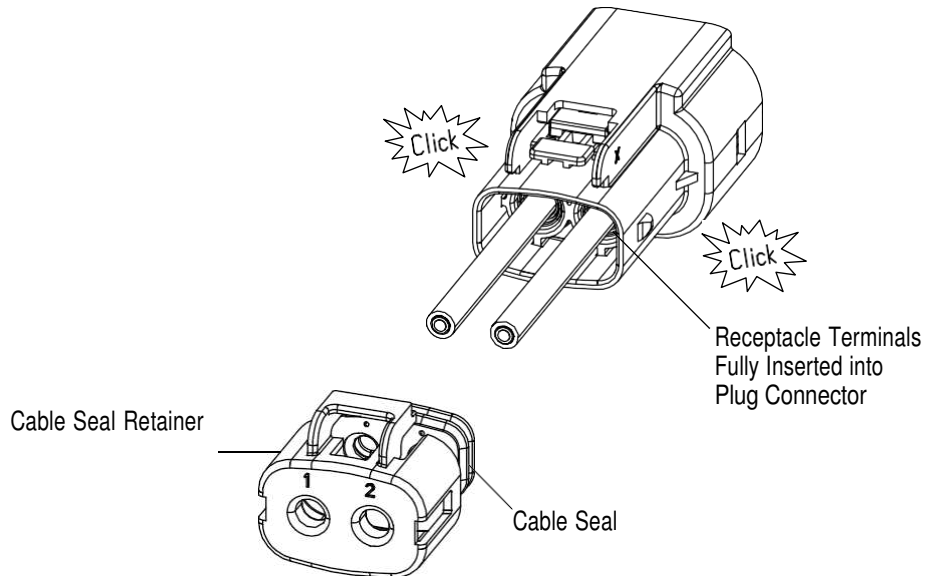

Figure 14
2. Insert the receptacle terminals into their respective plug connector circuit cavities until they are fully locked, and an audible and tactile “click” is detected. See Figure 14.